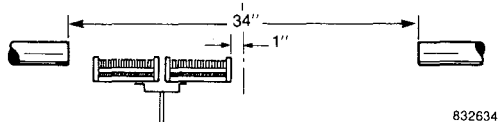

Fig. 35—Head 1" from center of splice.
- Place double head so that inside head is 1" (25 mm) from center of splice. See Figure 35.